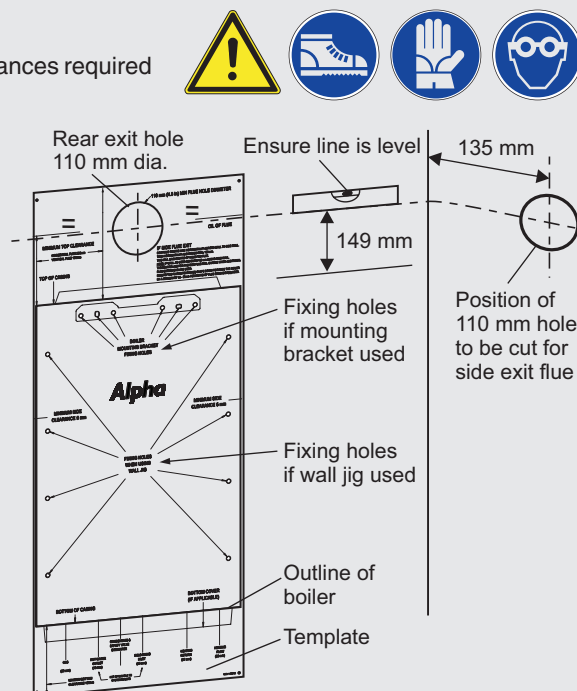

Fig. 5.2
5.3 PREPARE THE WALL - Fig. 5.2
5.4 FIT THE BOILER - Refer to Figs. 5.2 and 5.3